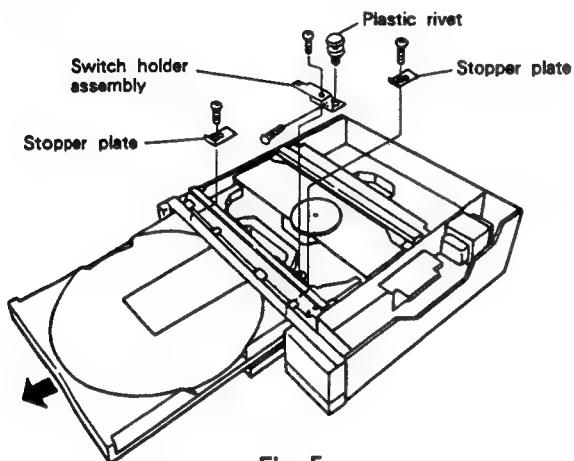

Fig. 5
3. Extract the rivet by pulling upwards and undo a screw then remove the switch holder assembly. (Fig.5)
4. Remove two screws to remove the stopper plate. (Fig.5)